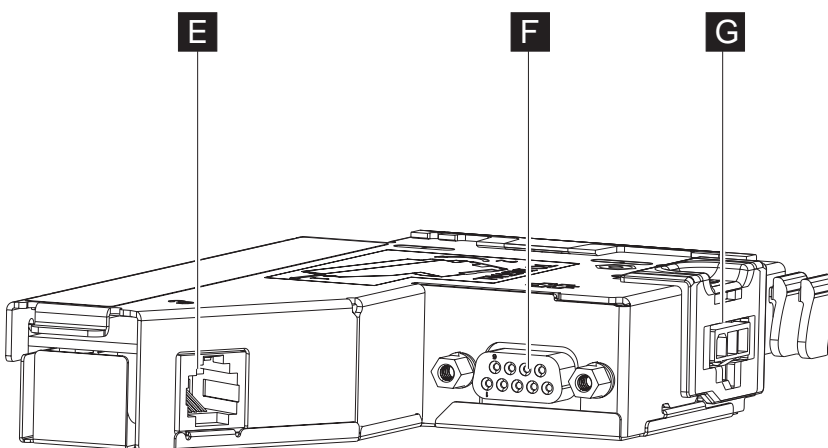

Figure 76. RS-232 interface card for 1NR, 1NA, and 1ND
3. Check the printer RS-232 mode-switch setting for the printer. It is near the rear cable connections. See **E** in Figure 76 on page 112 for switch location. For switch settings, see the *IBM 4610 SureMark Point-of-Sale Printers User's Guide*.